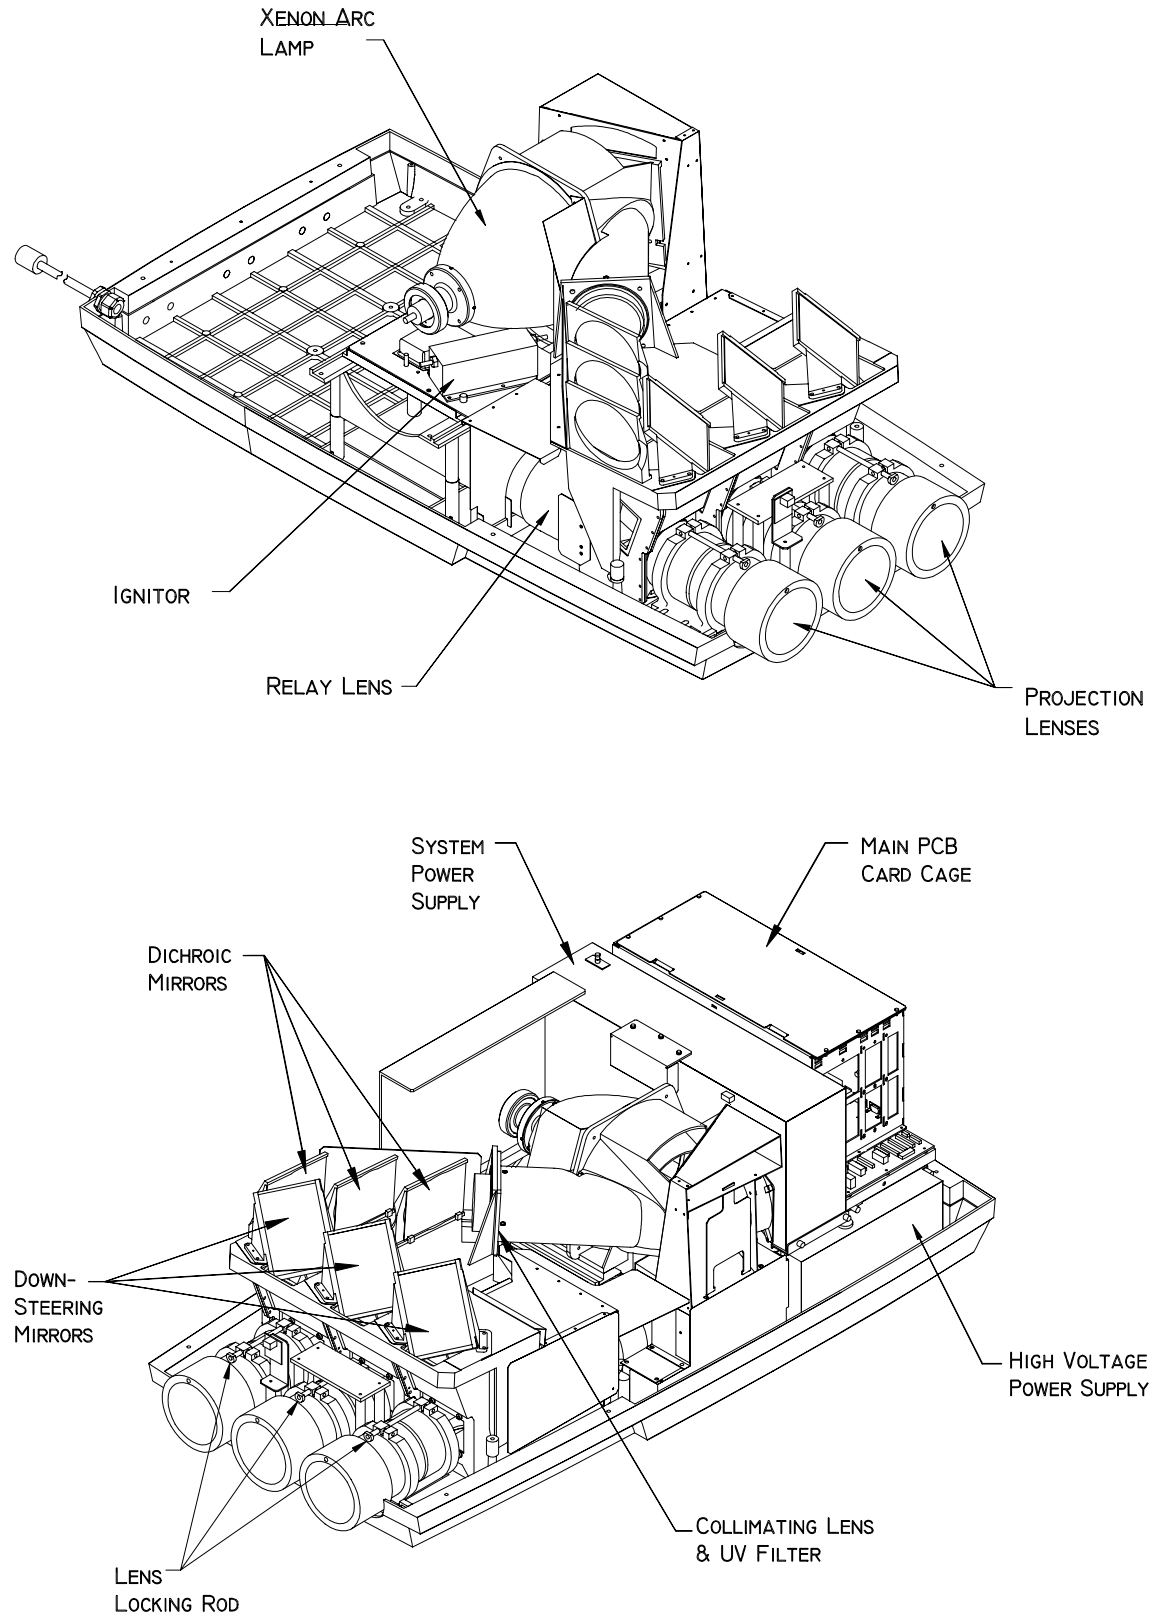

Figure 4-1 Major components of the Model 330 Projector.
3. Verify that the condensing (collimating) lens assembly has not moved (see Figure 4-1 or 4-2 and Photo 4-4). Check to see if the assembly is loose. It should be unmovable in any direction.
1. Unplug the projector. Allow at least one (1) minute for high voltage to bleed off before proceeding.
3. Remove the two (2) screws from the Plexiglas cover over the terminal block (*top of SPS, forward-Figure 4-1*) and remove cover.